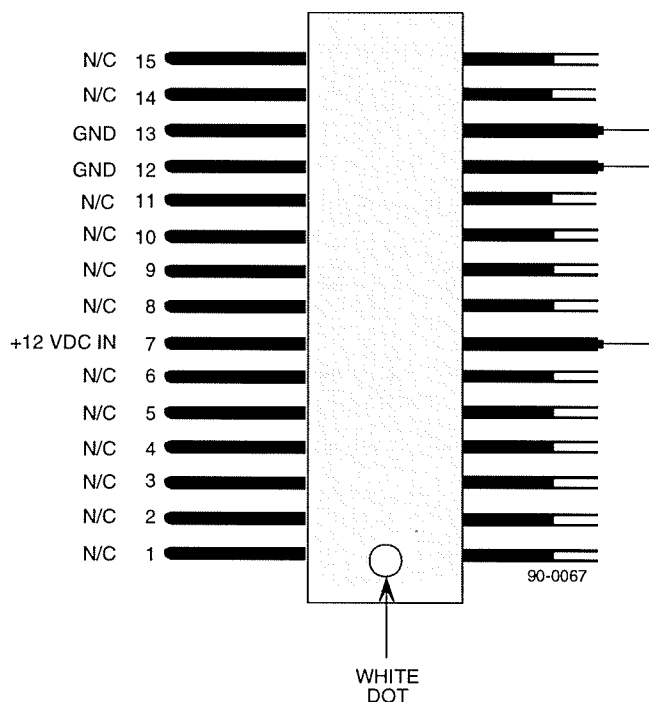

Figure D-4. Wiring Detail of Internal Plug P1
7. Connect option plug P1 to connector J4 of the Digital Controller module. The pin identified with a white dot on P1 inserts to pin receptacle 1 of J4. Refer to **Figure D-4** for wiring detail of plug P1.